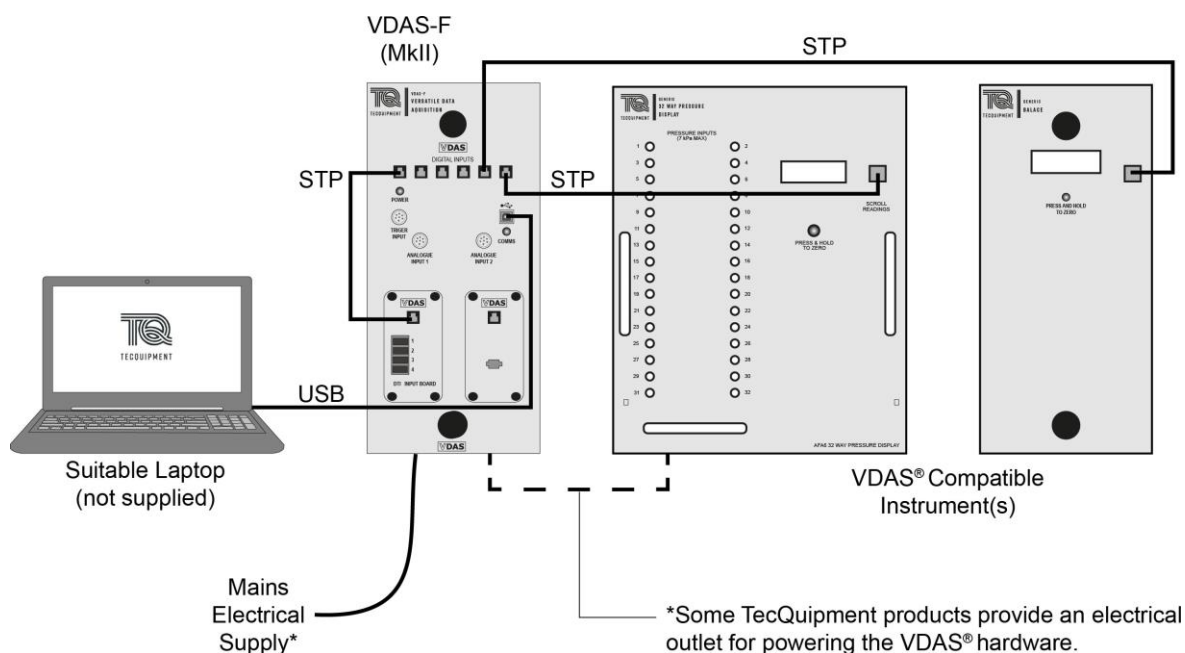

Figure 10 Typical System Connections for the VDAS-F
1. Figure 10 shows typical connections for the VDAS-F Hardware.